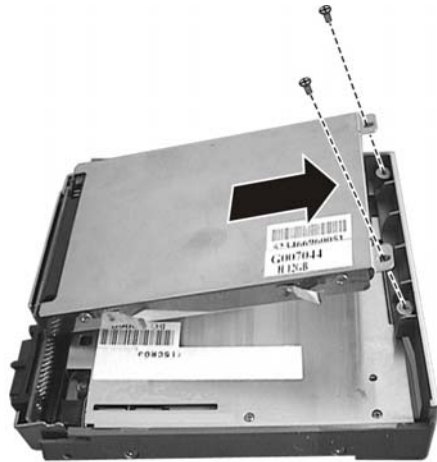

Figure 2-9
3. To take the hard disk drive apart, remove two screws of the hard disk. Then lift the hard disk up and unplug the connector to remove it. (figure 2-9)